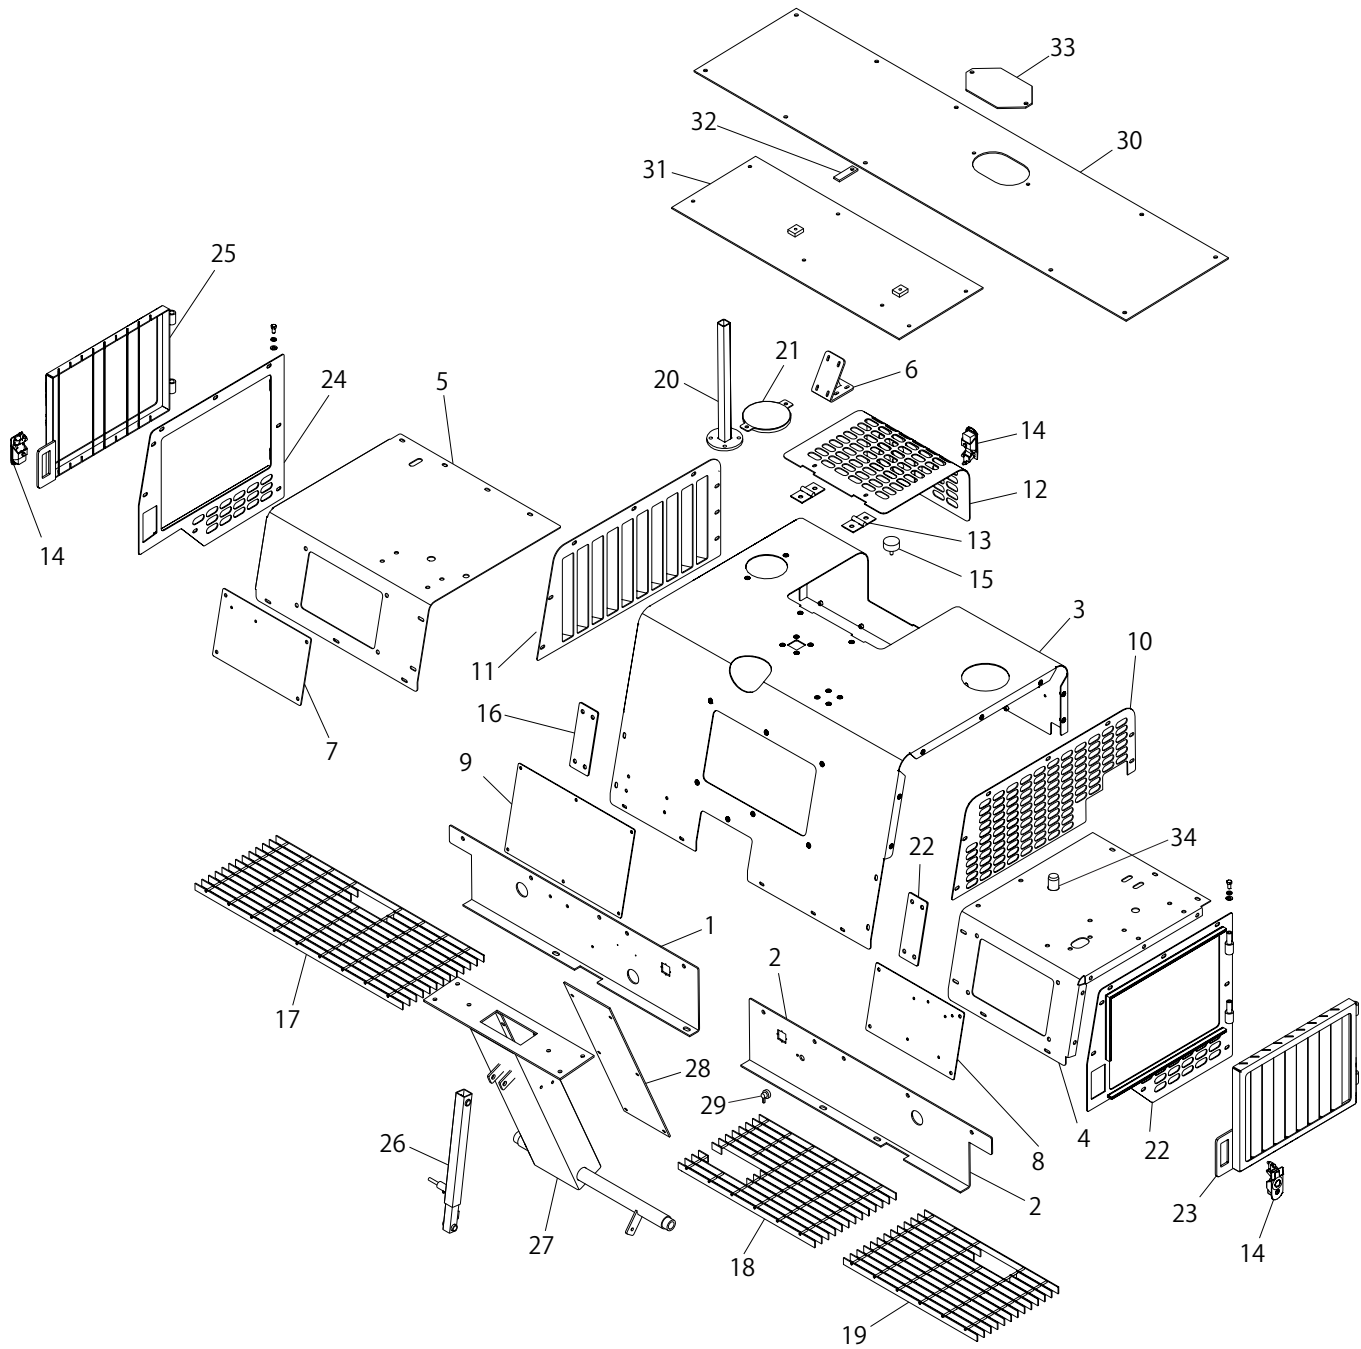

Figure 7-19
- For other sheet metal parts refer to Figure 7-19.